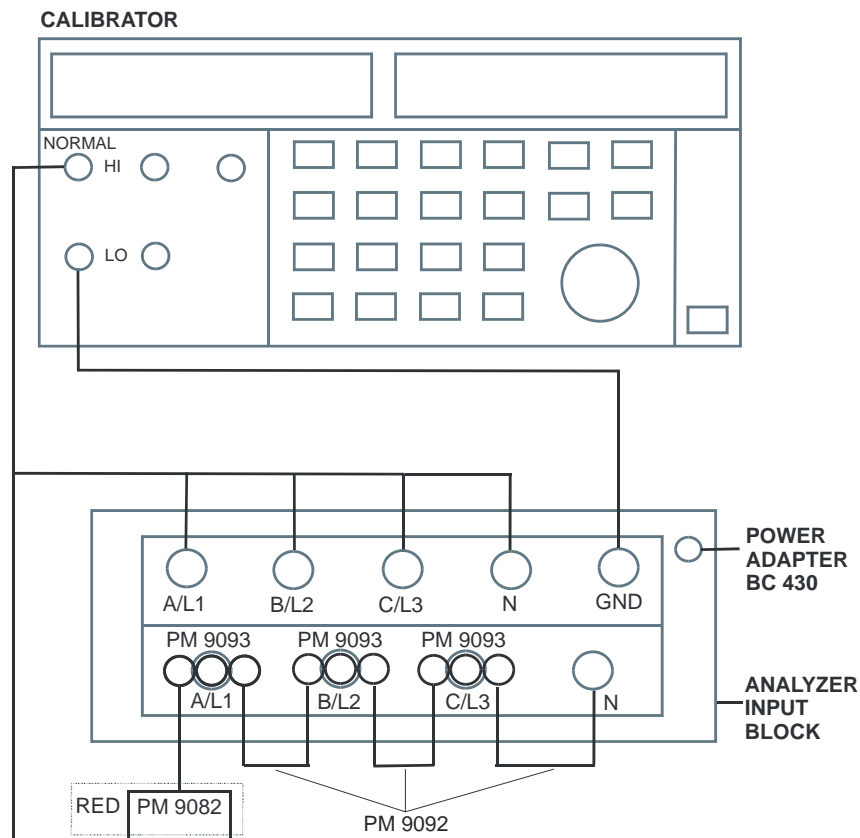

Figure 4-3. Offset, Low Voltage, and Current Gain Adjustment
1. Connect the Analyzer to the Calibrator as shown in Figure 4-3.
2. Keep the Analyzer connected to the Calibrator as shown in Figure 4-3.